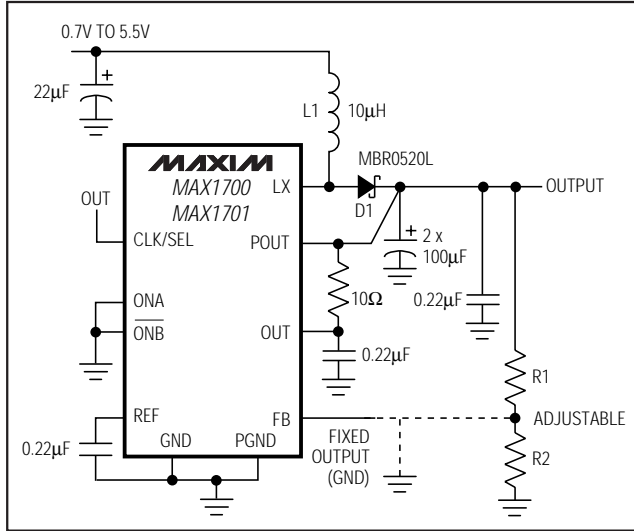

Figure 2. Fixed or Adjustable Output (PWM mode).
- Note 2:** Start-up is tested with the circuit of Figure 2.
power operation, as well as low-quiescent current for maximum battery life during standby and shutdown modes. They feature constant-frequency (300kHz), low-noise PWM operation with up to 800mA output capability. See Table 1 for typical available output current. A low-quiescent-current, low-power mode offers an output up to 100mA and reduces quiescent power consumption to 200μW. In shutdown mode, the quiescent current is further reduced to just 3μA. Figure 2 shows the standard application circuit for the MAX1700/MAX1701.
Set the output voltage between 2.5V and 5.5V by connecting a resistor voltage-divider to FB from OUT to GND, as shown in Figure 2. The resistor values are then as follows: